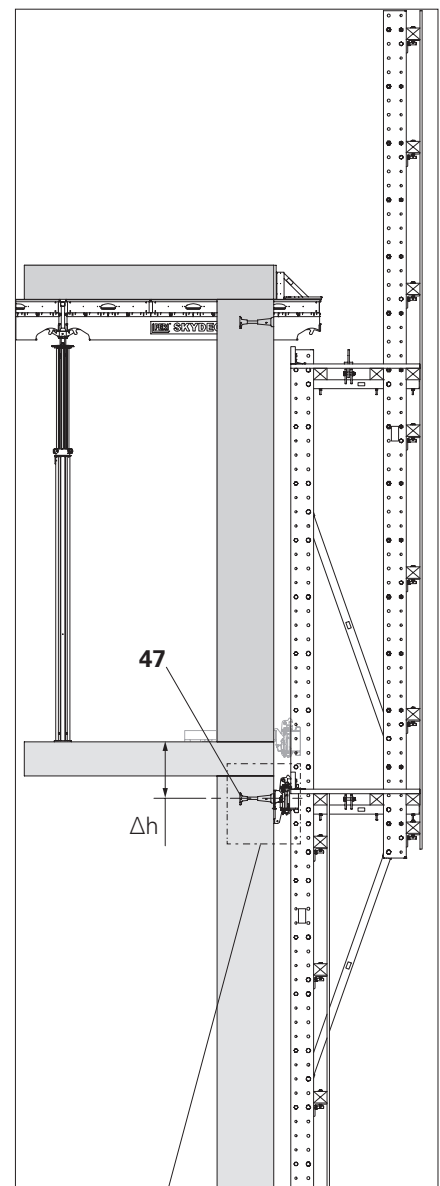

Fig. B4.02
Slab shoes and wall shoes must be in the same vertical system grid. For this, the suspension of the wall shoe (59) is height-adjusted by Δh in 125 mm increments to the upper edge of the slab. (Fig. B4.02 + B4.02b)